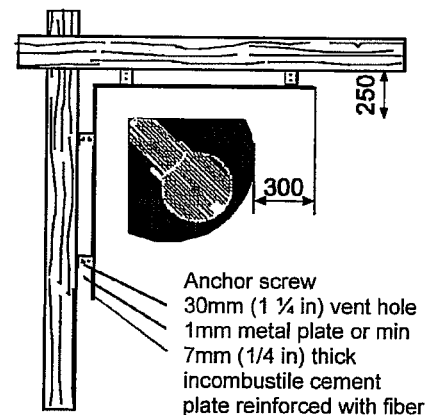

Figure 2
2. The minimum safe clearance mentioned above can be reduced to 250 mm (**10 in**), provided that a single, wall-mounted heat shield is used. Non-combustible, fibre-reinforced cement slabs with a minimum thickness of 7 mm (**1/4 in**) or metal sheeting with a minimum thickness of 1 mm (**.030 in**) and tightly mounted on the wall can be used as heat shields. A ventilation space of at least 30 mm (**1 ¼ in**) must be left between the wood wall surface and heat shield, using, for example, pipe clamps. (Figure 2)